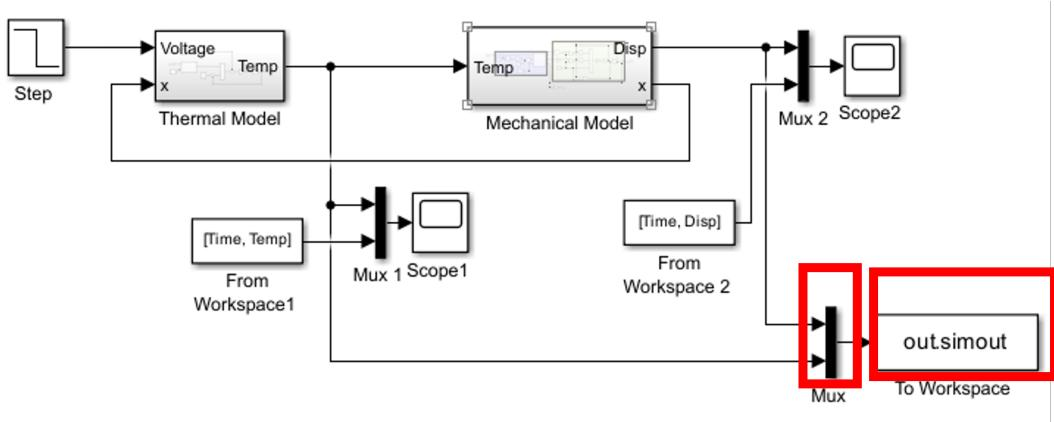

Figure 15: Addition of “to Workspace” block for MATLAB data export
8. If you want to plot your results using MATLAB, you may need to send the simulation results back to the workspace. this can be done by following modifications to the SIMULINK code, as in Figure 15. Then run the *plotting.m* file.